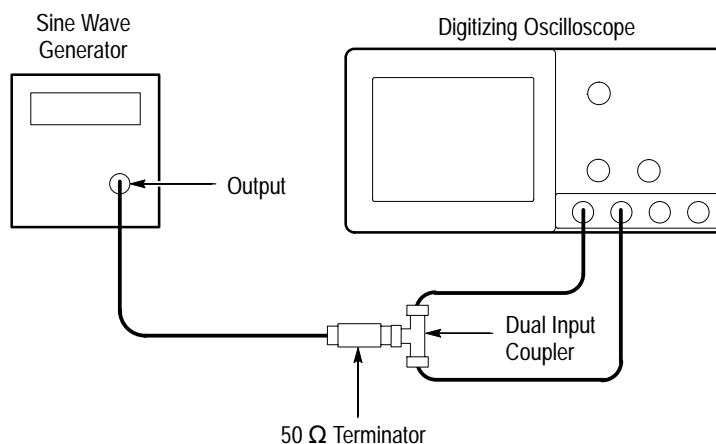

Figure 4–8: Initial Test Hookup
- Connect the sine wave output of a sine wave generator to a 50  $\Omega$  precision coaxial cable, a 50  $\Omega$  termination, and a dual-input coupler. (See Figure 4–8.)
- Locate the point on the rising edge of the left-most waveform where it crosses the center horizontal graticule line. This is the *time reference point* for this waveform. Note the corresponding *time reference point* for the right-most waveform. See Figure 4–9.
- Rotate the General Purpose knob to align one cursor to the *time reference point* of the left-most waveform edge and the other cursor to the *time reference point* of the right-most waveform edge. (Press **SELECT** to switch between the two cursors.) See Figure 4–9.